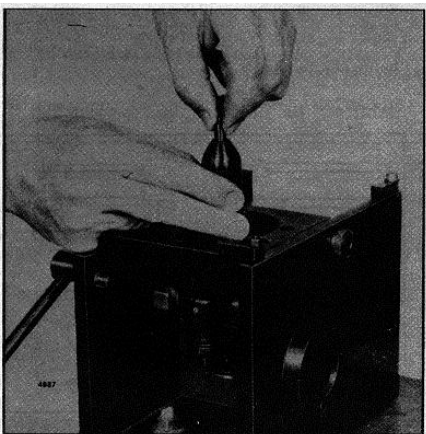

Fig. 39. Tightening Injector Nut by Hand
- Lubricate the threads in the injector nut and carefully thread the nut on the injector body by hand. Rotate the spray tip between your thumb and first finger while threading the nut on the injector body (Fig. 39). Tighten the nut as tight as possible by hand. At this point there should be sufficient force on the spray tip to make it impossible to turn with your fingers.